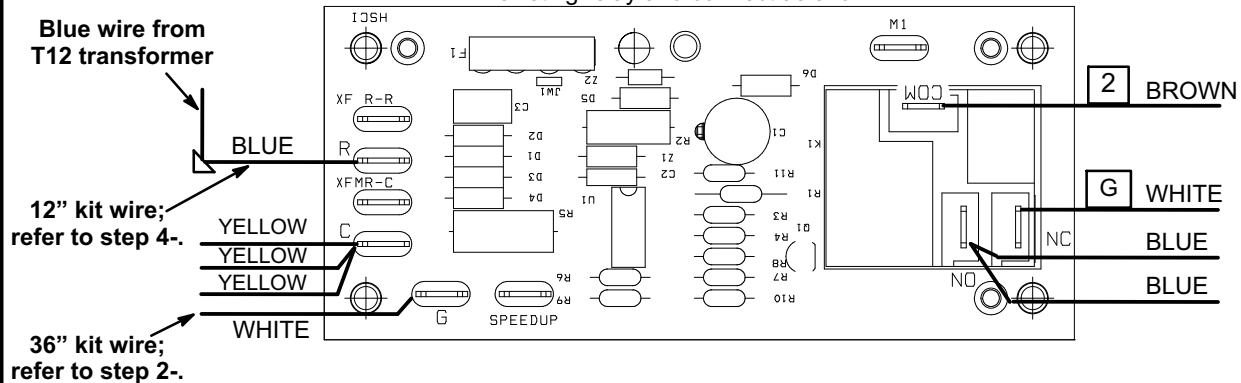

FIGURE 9
- 4- *1853 and Higher Units* - Connect 12" blue wire (provided in kit) on replacement relay terminals R. Connect the other end to the blue lead from T12 transformer. Secure with wire nut (provided in kit). See figure 9 and 10.